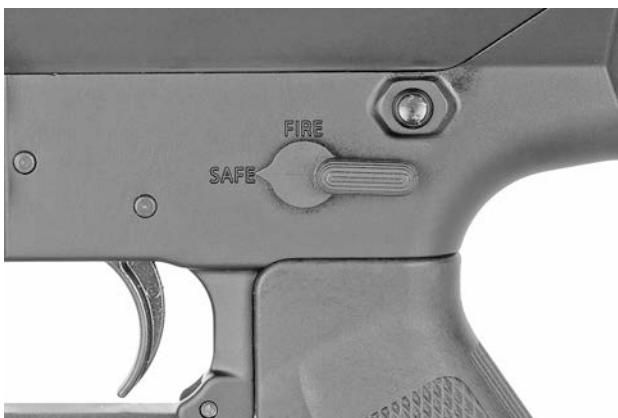

Figure 13
5. When you stop firing, remove your finger from the trigger and place the safety lever in the SAFE position. See figure 13.